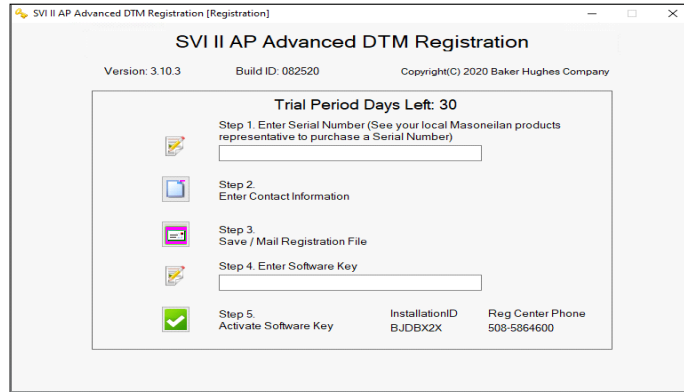

Figure 6 DTM Registration
2. Use the registration dialog (Figure 6) to:
1. Enter the serial number in *Step 1* of Figure 6. The *Serial Number* auto-fills for the *Standard Edition*.
2. Click  (associated with *Step 2* of Figure 6) and Figure 7 appears.
3. Enter all required information, as marked by *, click  then Figure 6 appears
1. Enter the emailed or channel partner acquired software key (Figure 6 under Section 2.3 “Registration Process”).